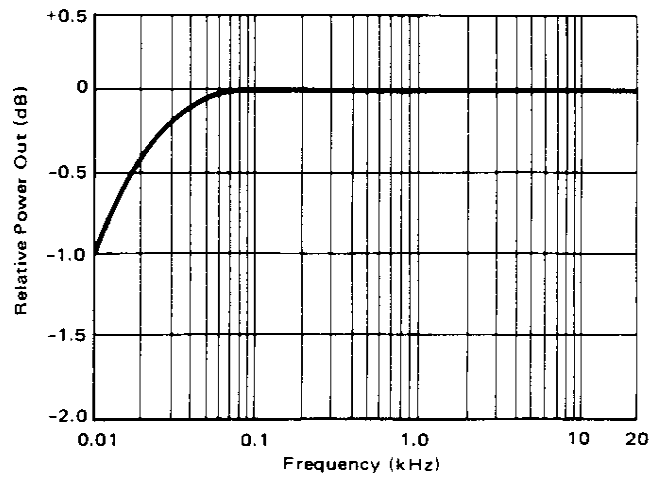

FIGURE 3 – Power Bandwidth (0 dB is Max Rated Power Output)
**Power Bandwidth:** Full rated output power  $\pm 1/2$  dB from 20 Hz to 20 kHz. (See Figure 3)